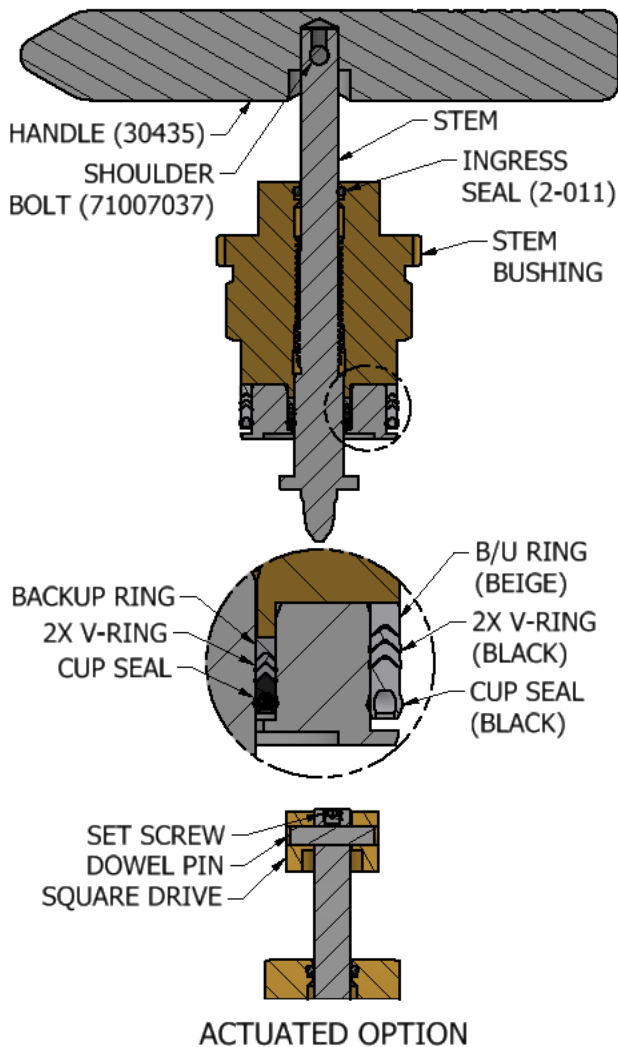

Figure 3 – Stem Assembly
- 6.9 Install each cup seal onto the stem seal retainer spring side down, followed by the two black v-rings and lastly the beige backup ring, with the ridged side facing the v-rings. Orientation per Figure 3.